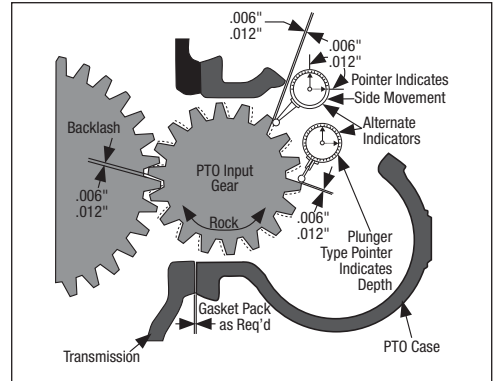

Figure 7
3. Acceptable backlash measurement is .006"-.012" (0.15-0.30 mm) (**Fig. 7**).